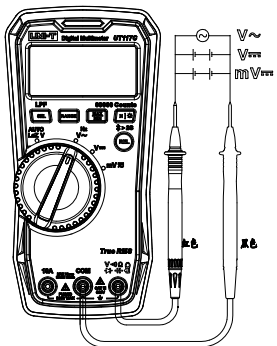

Figure 5
1. Automatic AC/DC voltage measurement (Auto-V LoZ) (Figure 5)
2. AC/DC voltage measurement (Figure 5)
3. AC/DC mV voltage measurement (Figure 5)